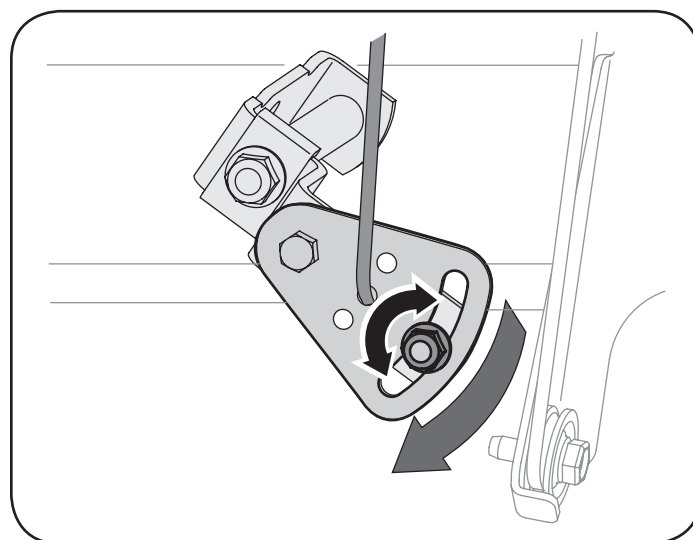

Figure 23
2. Loosen the hex nut on the shift cable index bracket. See Figure 23.